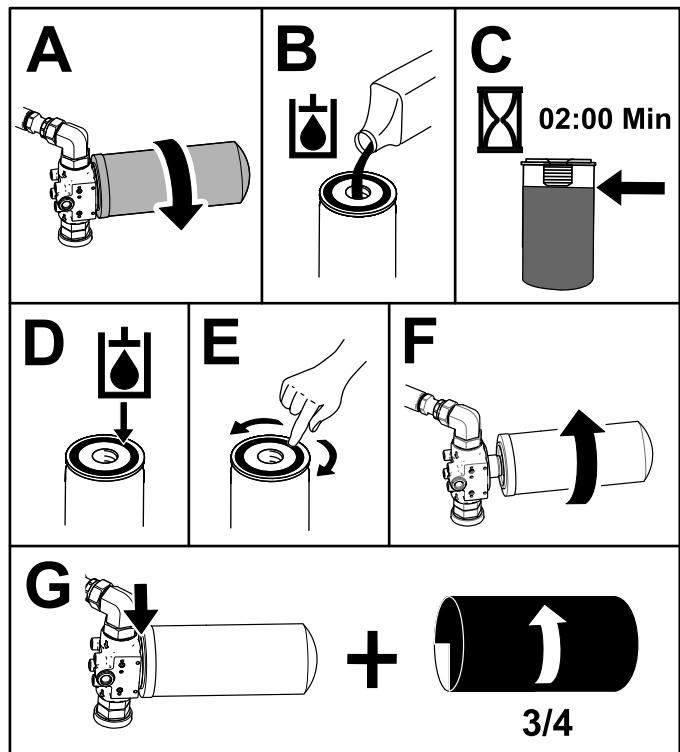

Figure 75
5. Place a drain pan under the front filter and replace the filter (Figure 75).